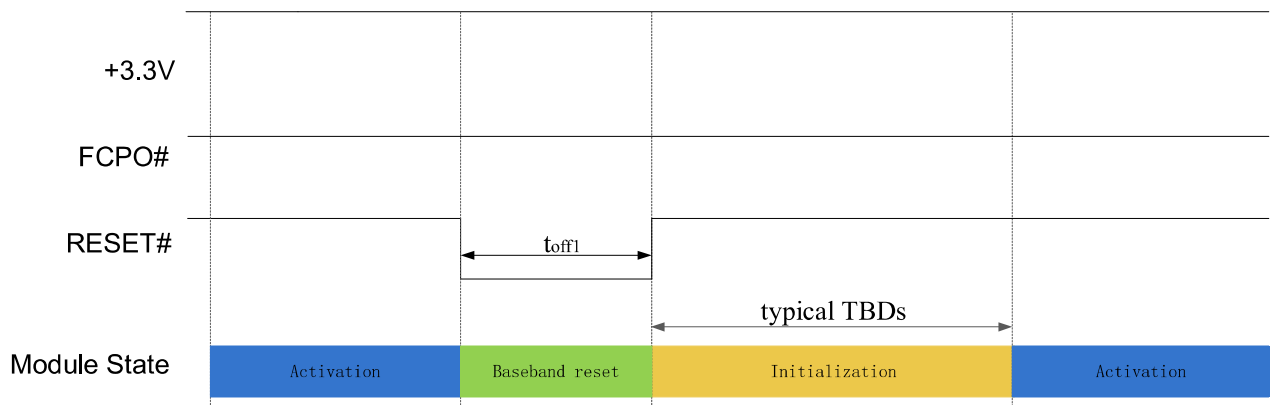

Figure 10. Reset timing 1st
- Reset timing 1st in Figure 10, PMU of module internal always on in reset sequence, recommend using in FW upgrade and module recovery;